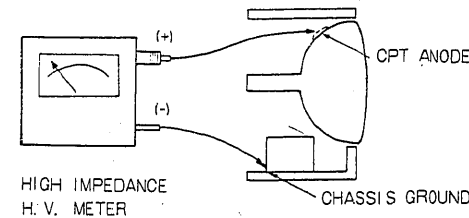

Fig. 1. Connection of H. V. Meter
1. Connect a high voltage voltmeter between the CRT anode and the chassis ground as shown Fig. 1.